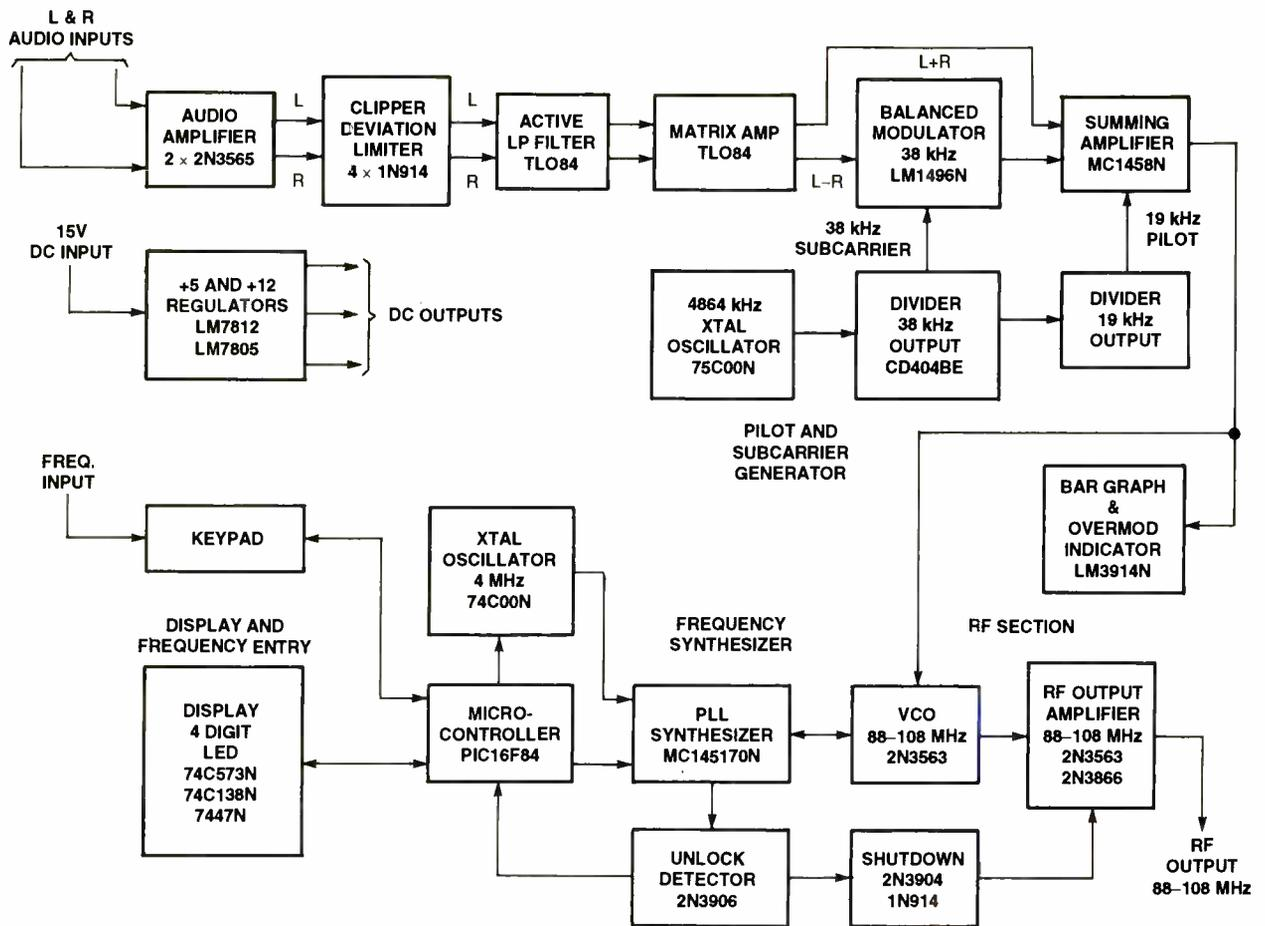

Fig. 2. A detailed block diagram—like this one depicting the signal flow within the MPX 2000—is a vital tool in designing and troubleshooting complex circuits.
Fig. 2. The In-Circuit Capacitor Tester is simple in design and highly effective. The schematic above shows the complete circuit that is centered around a quad op-amp.
When mounting the components on the board, leave the lower left area of the board free for the potentiometer. Refer to Fig. 2 for the circuit schematic. A close-up photo shows the components mounted on an experimenter's
**Circuit Signal Flow.** The MPX 2000 circuitry will now be discussed. Refer to the schematic shown in Fig. 1 and the block diagram shown in Fig. 2 for this discussion. Audio input at line level (1 volt peak-to-peak at a 500- to 10,000-ohm impedance) is fed into jacks, J5 and J6, which are left- and right-audio input channels, respectively. Resistors R1 through R4, with R7, make up an input network, and R7 is used to obtain an equal audio gain for both L (left) and R (right) channels. Q1 and C1, along with resistors R5, R8, R10 and R14, all